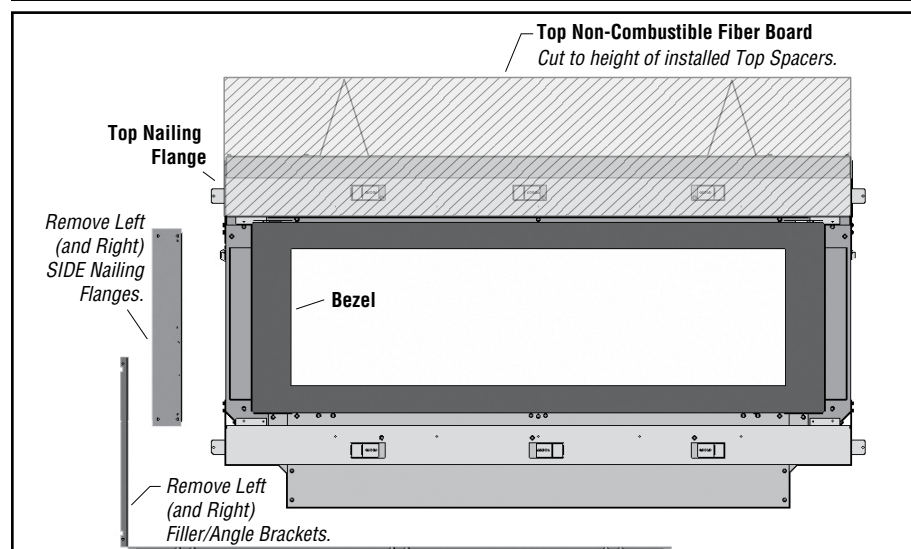

Figure 56
2. **LEFT/RIGHT SIDE NAILING FLANGES:** REMOVE the LEFT and RIGHT SIDE Nailing Flanges (see **Figure 56**), and discard using appropriate disposal methods.
3. **LEFT/RIGHT FILLER/ANGLE BRACKETS:** REMOVE the two Filler/Angle Brackets (see **Figure 56**), and discard using appropriate disposal methods.
4. **NON-COMBUSTIBLE FIBER BOARD:** See **Figures 56 (this page) and 57 (next page)**. Attach the TOP Non-Combustible Fiber Board to the TOP Nailing Flange, and secure using field-supplied screws. Discard the two smaller SIDE Non-Combustible Fiber Boards (not used with Surround).
**For painted wall finish, use two (2) coats of quality primer and high-temperature paint on provided Fiber Board.*
8. **SURROUND:** Attach the Surround, and secure using the nine (9) screws provided with the Surround Kit (**Figure 56**).